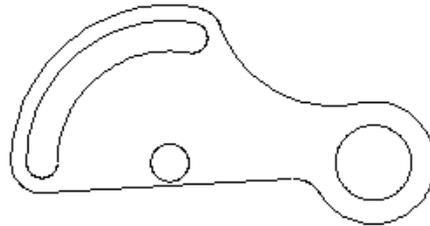

Figure 2-1
- (1) Add a part as shown in Figure 2-1, select the part, click button "move down", thus the part is moved to the lower left corner. Then click "Array" in menu "Interactive", the "input quantity" box is popped up.